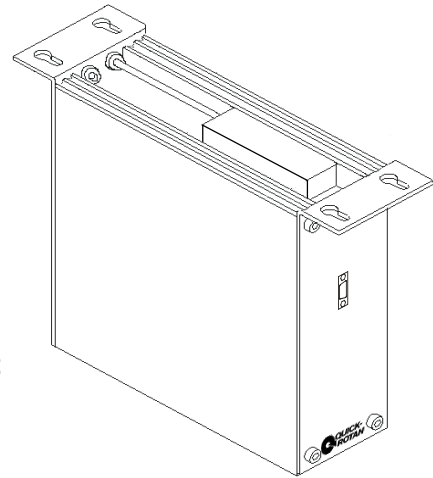

Fig. 7.2
**Control** (**Fig.7.2**) with